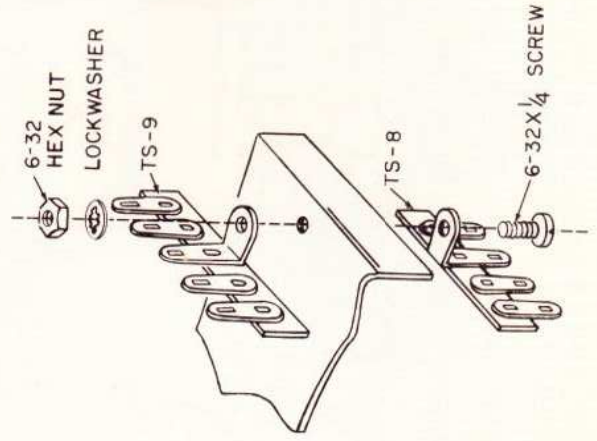

FIGURE 5
- ✓ TS-8, 4-terminal strip and TS-9, 5-terminal strip. See Figure 5. Position TS-9 on top of the chassis and TS-8 on the bottom. Fasten these parts with a 6-32 × 1/4" screw, lockwasher, and nut.